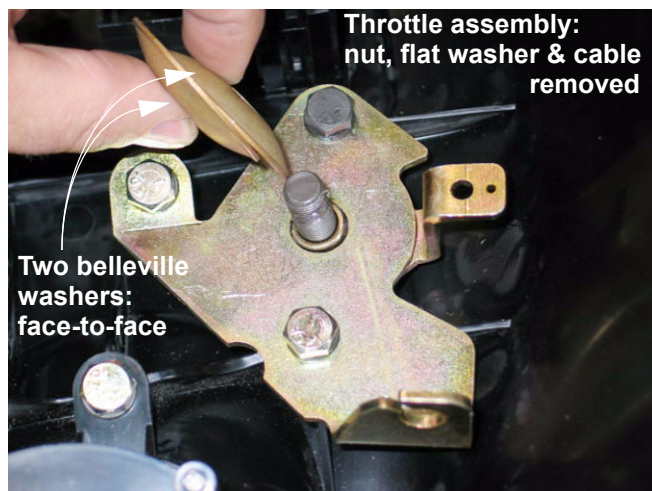

Figure 2.5
- 2.5. The lock nut, flat washer and two bellville washers can be removed from the base of the throttle lever, using a 9/16" wrench. See Figure 2.5.